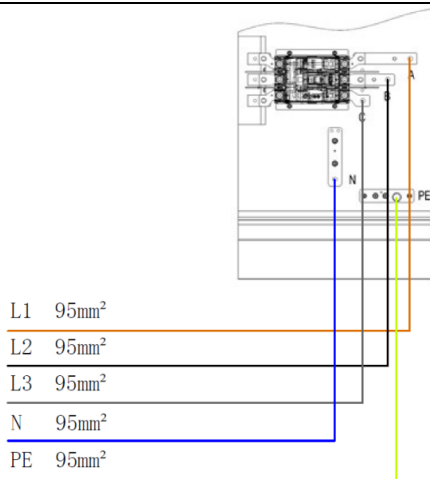

Figure 2.14 Host AC input power supply wiring
- j) Connect the three L1, L2, and L3 three-phase cables with AC input to copper bars A, B, and C respectively, as shown in Figure 2.14.